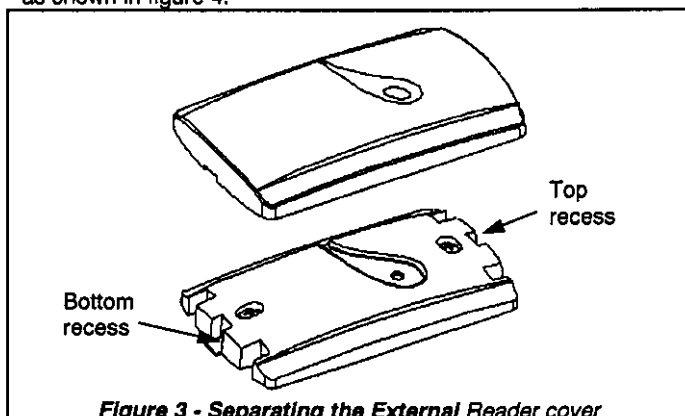

Figure 3 - Separating the External Reader cover
A. Use a screwdriver, in the base bottom or top recess (see figure 3), to lever out the base from the reader.
Caution: Close the cover in the proper direction (see figure 3) otherwise the LED light will not be visible.